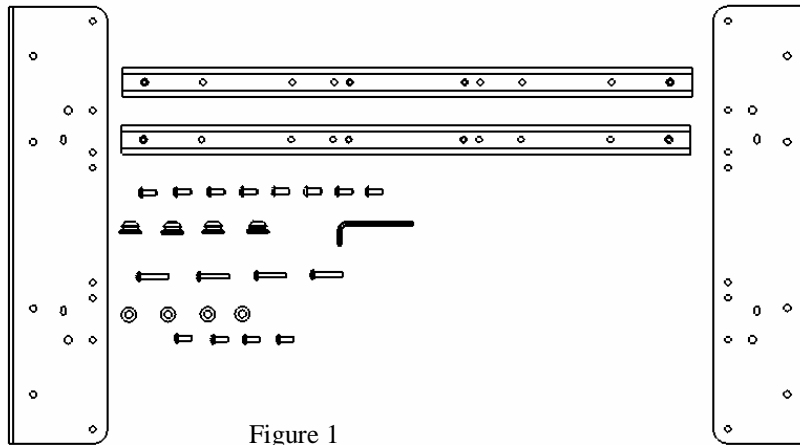

Figure 1
- (1) 1/8" Hex Key
**BEFORE PROCEEDING:**     Unpack the carton, verify contents shown in Figure 1 and read installation instructions completely. If you are missing any of the listed components, please contact Customer Service at 1-800/582-6480.